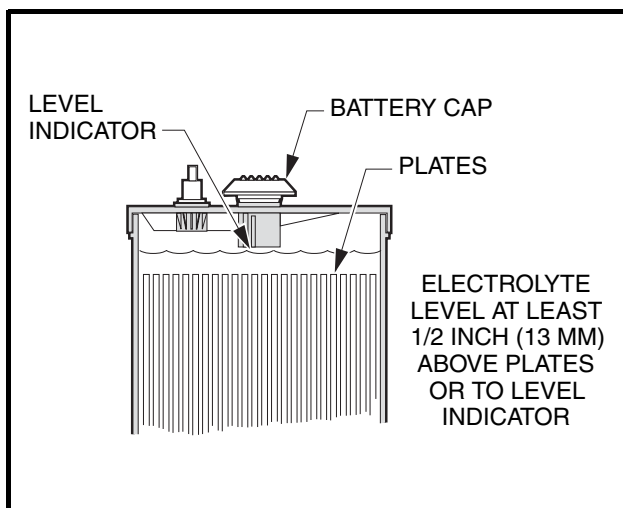

Figure 21 Electric Battery Electrolyte Level
2. The electrolyte level in the batteries should be checked weekly (**Figure 21**). Add water only after charging unless the electrolyte level is below the top of the plates. In this case, add just enough water to cover the plates, charge and then check the level again. Never charge batteries if plates are exposed above electrolyte level. For best battery life, add only distilled water. **See following NOTE.**